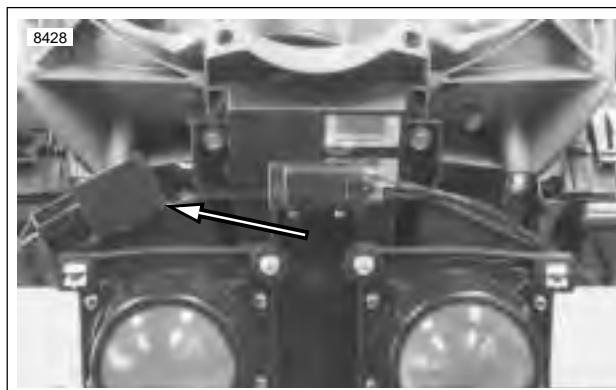

Figure 7-50. Turn Signal Flasher
1. See Figure 7-50. Attach 3-place connector [30] to flasher.